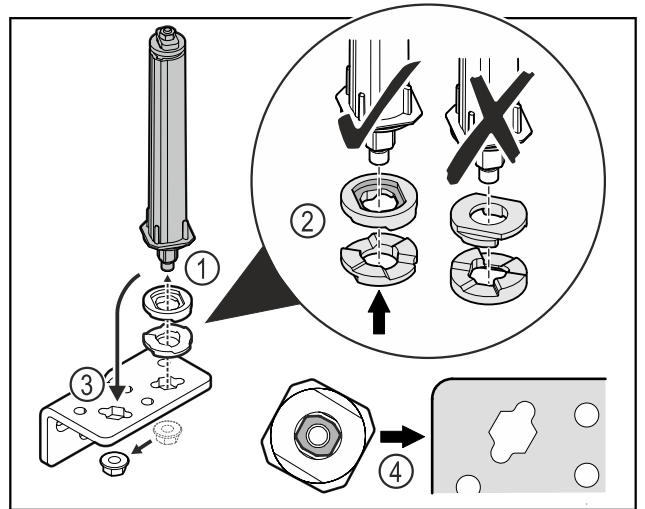

Fig. 50
- Loosen the nut and remove the door closing system Fig. 50 (1).
- Observe the correct alignment of the height adjustment washers Fig. 50 (2).
- Put the door closing system in the hinge fix in place with the nut Fig. 50 (3).
- Observe the correct alignment of the door closing system when doing so Fig. 50 (4).